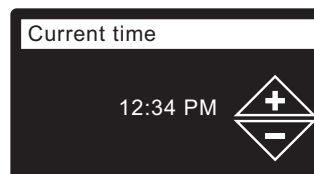

FIG. 20
19. **CURRENT TIME** Press the DOWN (▼) or UP (▲) buttons to set the current time (See Figure 20). Hold the button down to rapidly advance. Be sure that AM or PM is correct. If the system units were set to metric in Step 17, the clock will be in 24-hour format.
20. Press the SELECT (O) button.